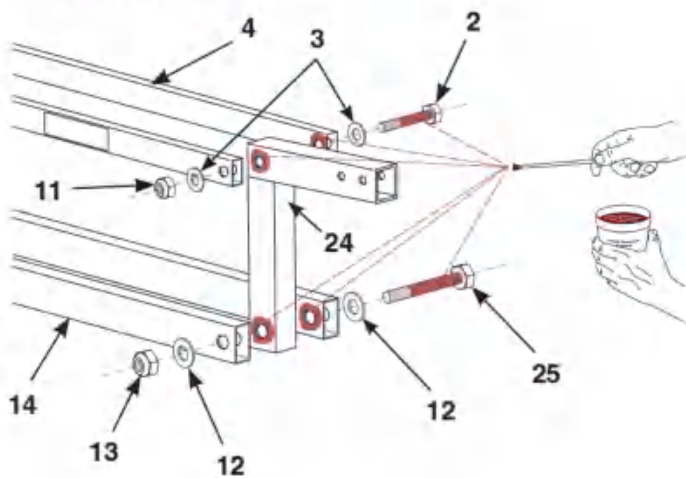

Figure 9
15. Install the tee (24) at the end of the lower (14) and upper (4) lift arms as follows:
a) For the lower lift arms: Grease 6-1/2" cap screw (25) and pivot holes of arms (14) and tee (24). Install 7/8" washer (12) onto the cap screw and insert through boom tubes. At the opposite side, install a washer (12) and locknut (13) on inserted cap screw. **See Figure 9.**
b) For the upper lift arms: Grease 5-1/2" cap screw (2) and pivot holes of arms (4) and tee (24). install 5/8" washer (3) on the cap screw and insert through boom tubes. At the opposite side, install another washer (3) and locknut (11) on the inserted cap screw. **See Figure 9.**